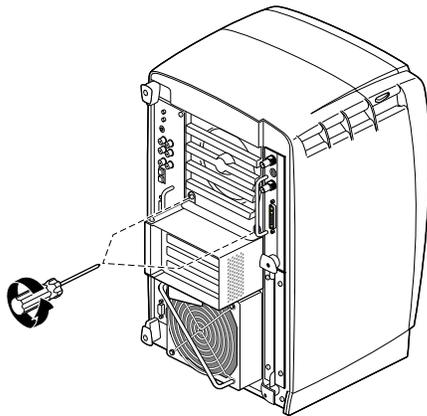

Figure 4-6 Removing the Screws From the PCI Module
1. Loosen the two captive screws that secure the PCI module to the workstation, as shown in Figure 4-6, until they are disconnected from the chassis.